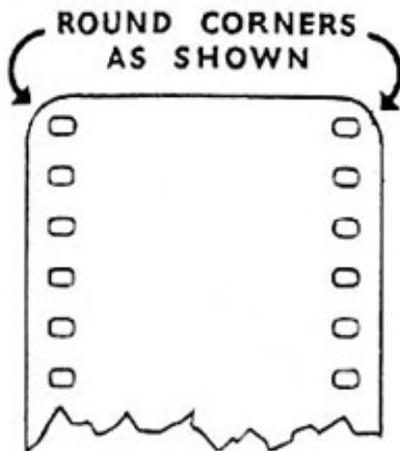

Fig. 2
1. Cut off the half width leader of the film and round off the corners of the cut end as illustrated (fig. 2). Cut **BETWEEN** the film perforations as shown—not through them. Straighten out the curl at leading end of film by bending it between the finger and thumb a few times. **DO NOT** double over the leading end of film as is sometimes recommended for other tanks.